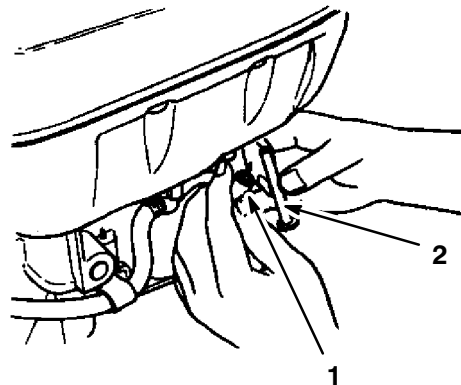

Figure 23
4. Remove the fuel tube on the fuel tank by loosening the tube clamp and pulling off the fuel tube (Fig. 23).
5. Remove the fuel filter from the fuel tank (Fig. 23).